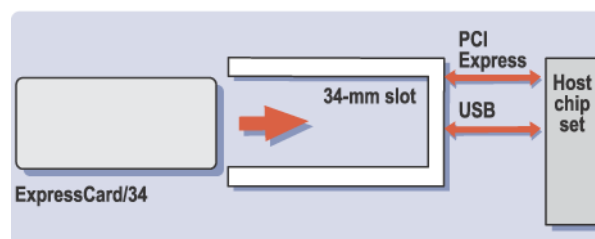

Figure 2. 34-mm ExpressCard Slot
- **One 34-mm slot** — The 34-mm slot is the simplest host solution. Shown in Figure 2, this type of host slot will only support ExpressCard/34 modules. The advantage of this configuration is its compact size, and it will be common on small portable and hand-held devices.